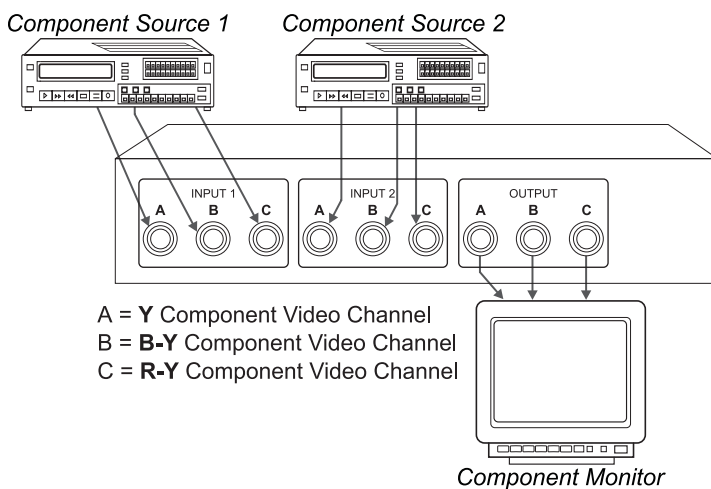

Figure 4: Connecting the VS-21 as a 2x1 Component Video Switcher
- 2x1 Component video switcher (see Figure 4)
To use the **VS-21** as a component video (Y, B-Y, R-Y, sometimes called YUV or Y, Pb, Pr) switcher, connect the **VS-21** as the example in Figure 4 illustrates: